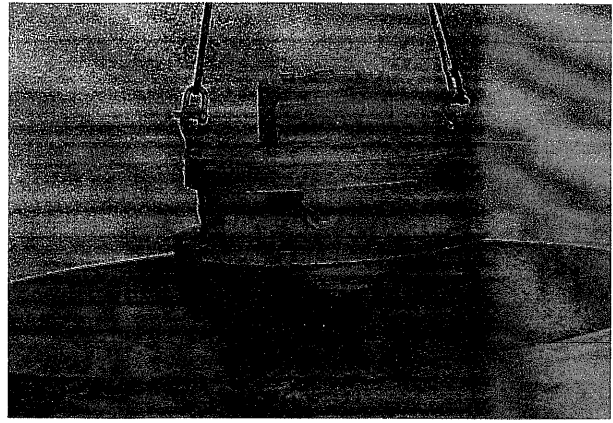

Fig. 75
- (4) Remove bolts (11) and dismount propulsion motor (10). (SV91T, SV91D & SV91DP) (Fig. 73, Fig. 75)